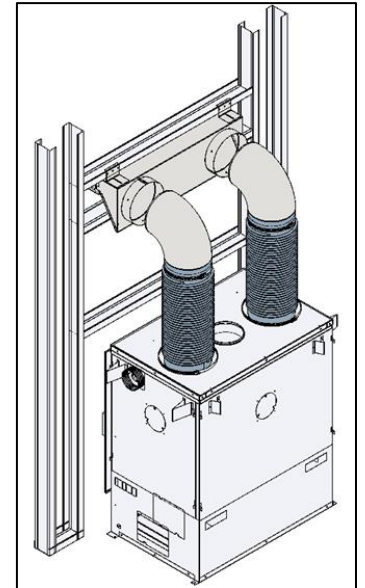

Figure 3-30: CAC8 Duct Installation
7. Insert the other ends of the ducts on the 8 inch duct adapters on top of the fireplace (Figure 3-30).